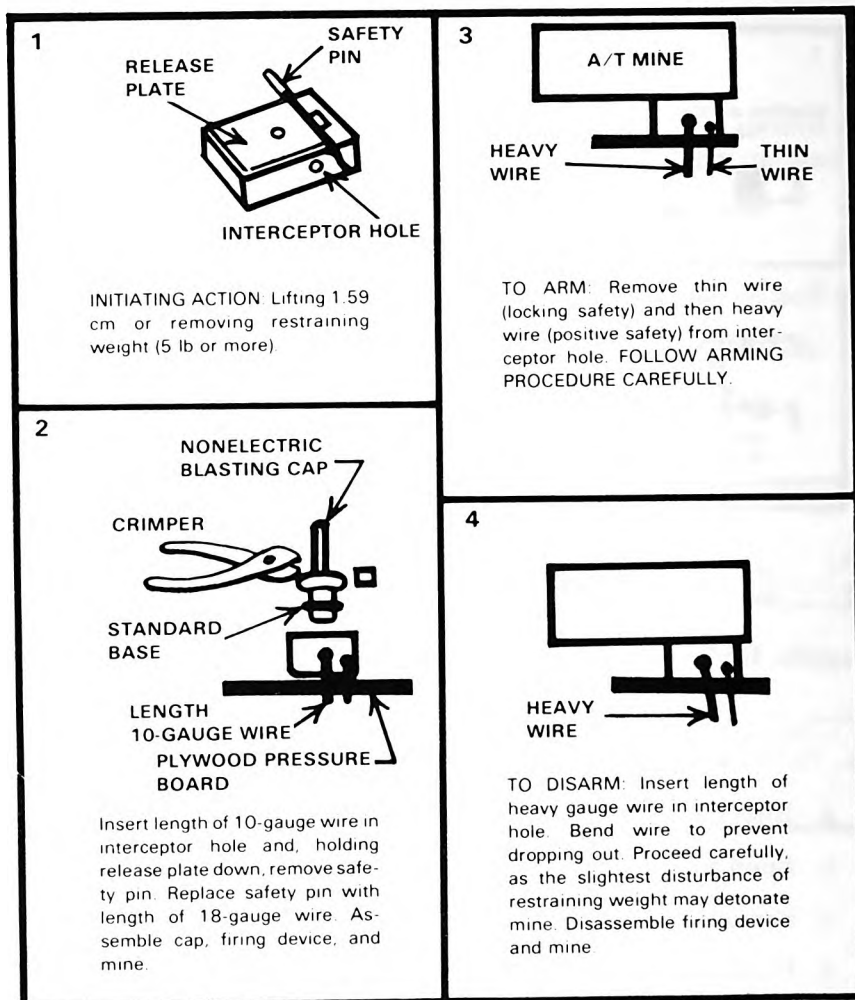

Figure 4. M5 pressure-release firing device.
4. To install an M5 pressure-release firing device (figure 4).